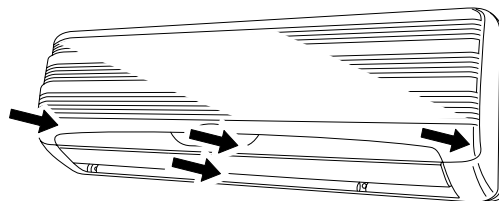

Fig. 15b
- (3) Press at each of the 4 tabs to completely close the grille. Make sure that the grille and frame are firmly fitted together. (Fig. 15b)